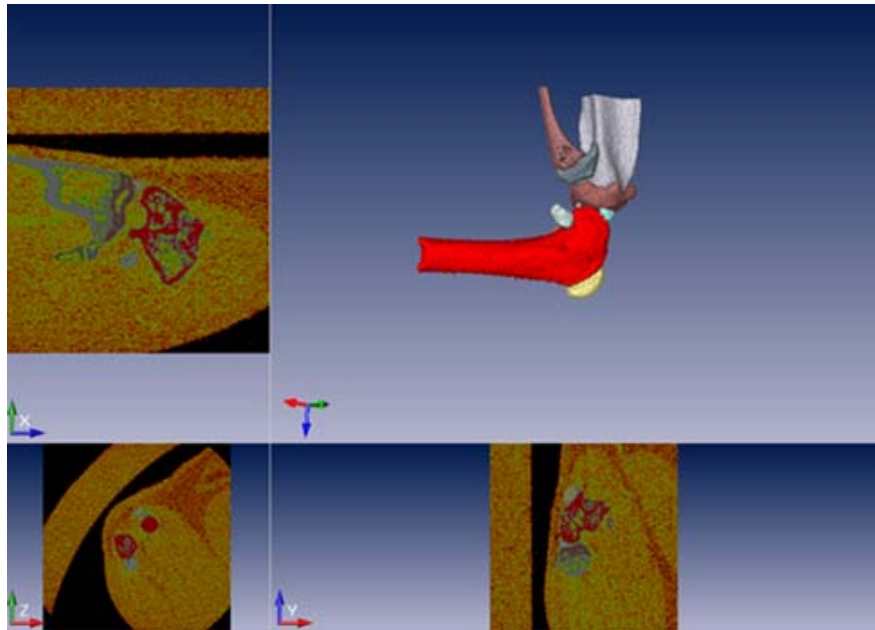

Figure 40. Pick Bone to Segment
- 9 Click the bone to be segmented. The bone turns red. See Figure 40.